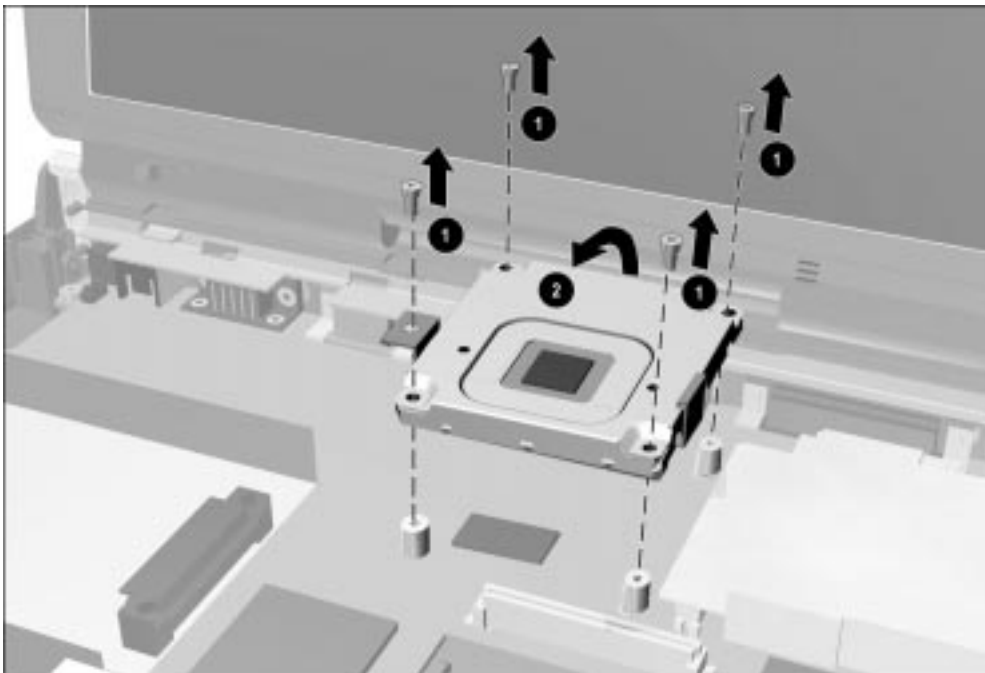

Figure 5-31. Removing the Processor Board
When installing the processor assembly, make sure the processor spacers, processor assembly, and screws are installed in the proper sequence. Refer to Figures 5-31 and 5-32 for the proper installation sequence.
3. Remove the four screws **1** that secure the processor board to the system board. Lift up on the back edge of the processor board **2** and swing it forward to disconnect it from the system board and remove the processor board (Figure 5-31).